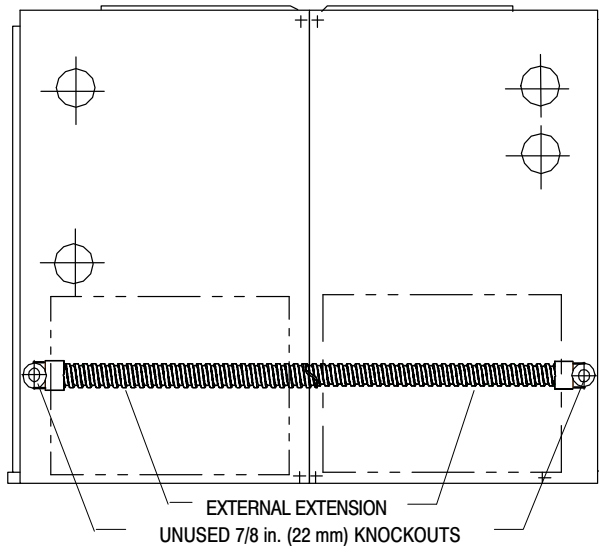

Fig. 1 - External Extension
- In the Back-to-Back, upflow, downflow and horizontal applications, reference the furnaces from the side of the external extension harness. The LH furnace is the Main furnace and the RH furnace is the Secondary furnace, as you would see them in the upflow application. (See Fig. 1 and 3.)